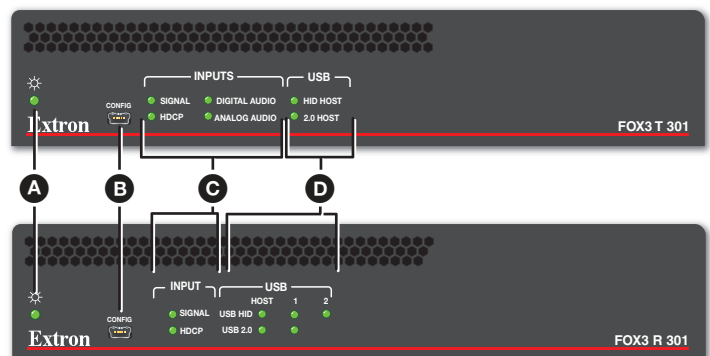

Figure 6. FOX3 T/R 301 Front Panels
- **USB Configuration port** — Connect a USB mini-B connector to this port (see **figure 6, B** on page 3).